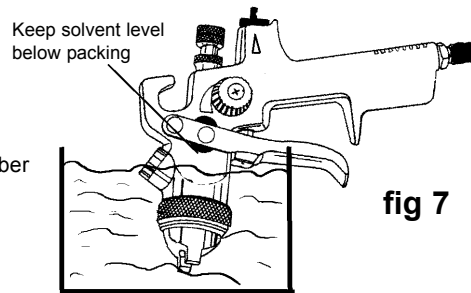

fig 7
- 5.1.1. Immerse the front end of the gun only in solvent. The solvent should just cover the fluid connection. (fig 7).